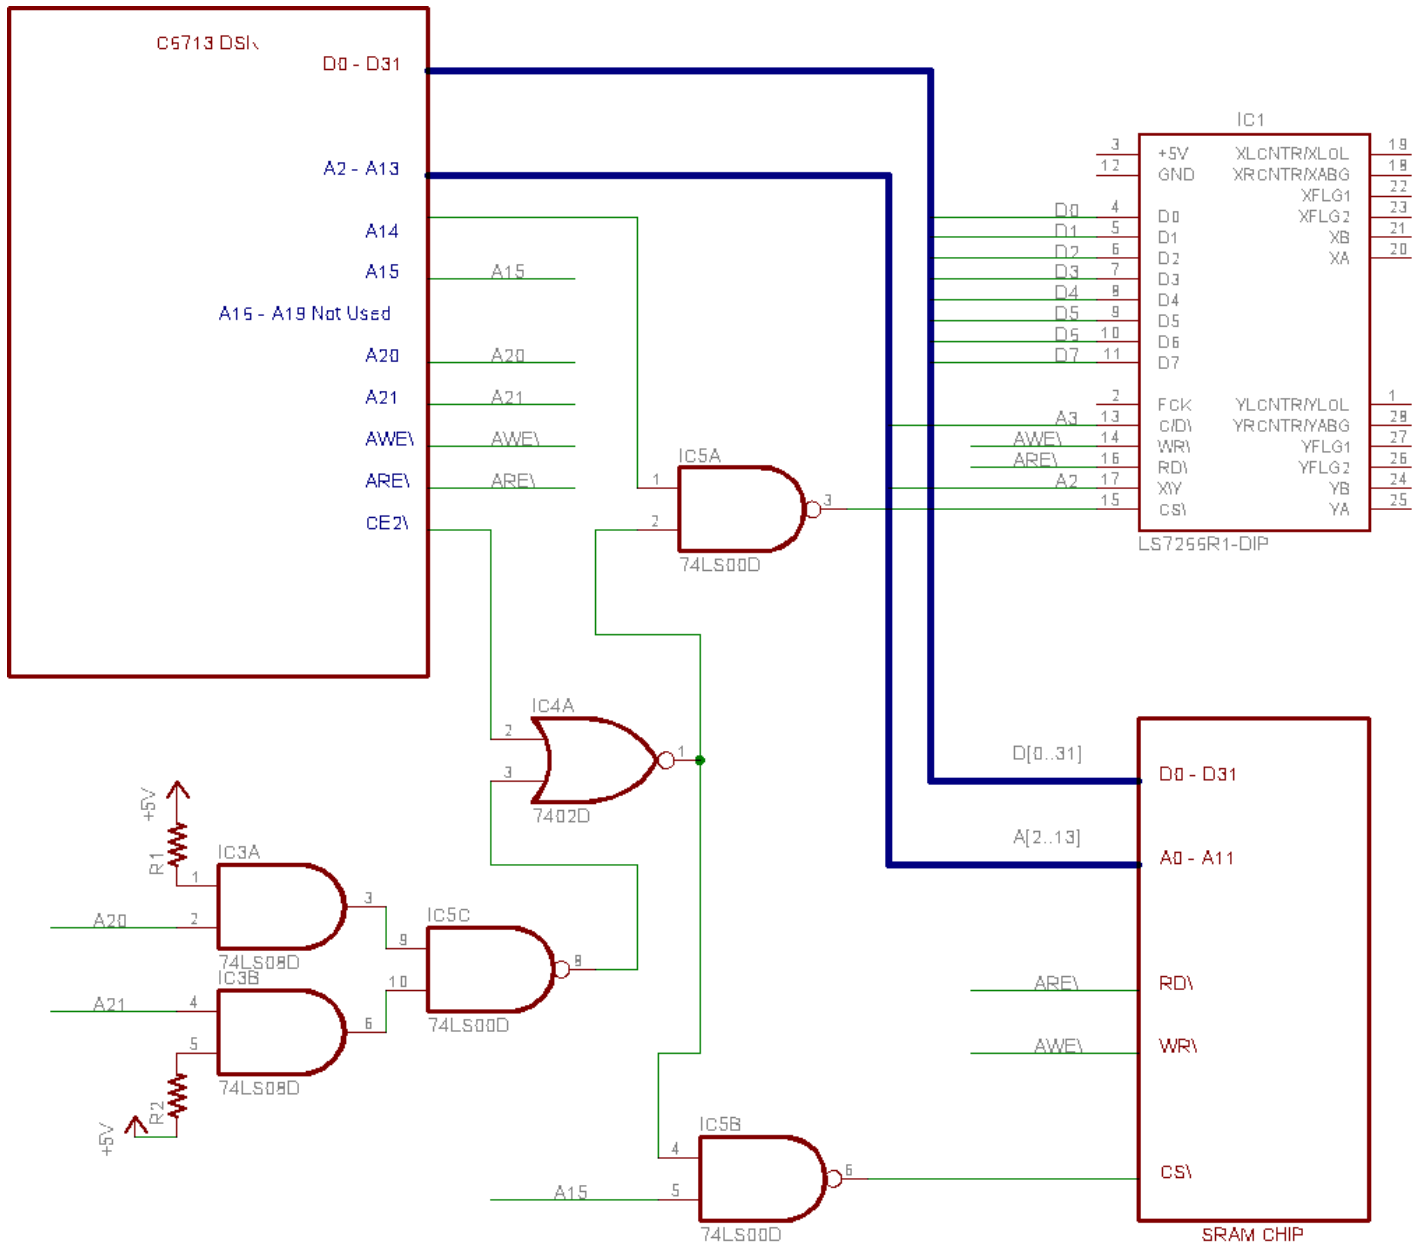

Figure 4:
4. Using the schematic given in Figure 4 below, what C instruction should be used to read the 32-bit value stored at memory location 1150 in the SRAM chip? What C instruction will write 8423 to the SRAM memory location 0xdf2? What C instruction will command the LS7266's X and Y RLD registers to transfer the X and Y encoder counts (CNTR) to their output latches (OL) and reset their byte pointers? You will need to look at the LS7266 datasheet.